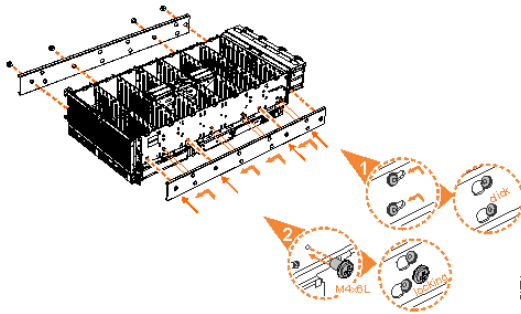

Figure 49. Attaching the inner rail section to the enclosure
5. Install the inner section of the rail onto each side of the expansion enclosure, as shown in Figure 49 on page 83.